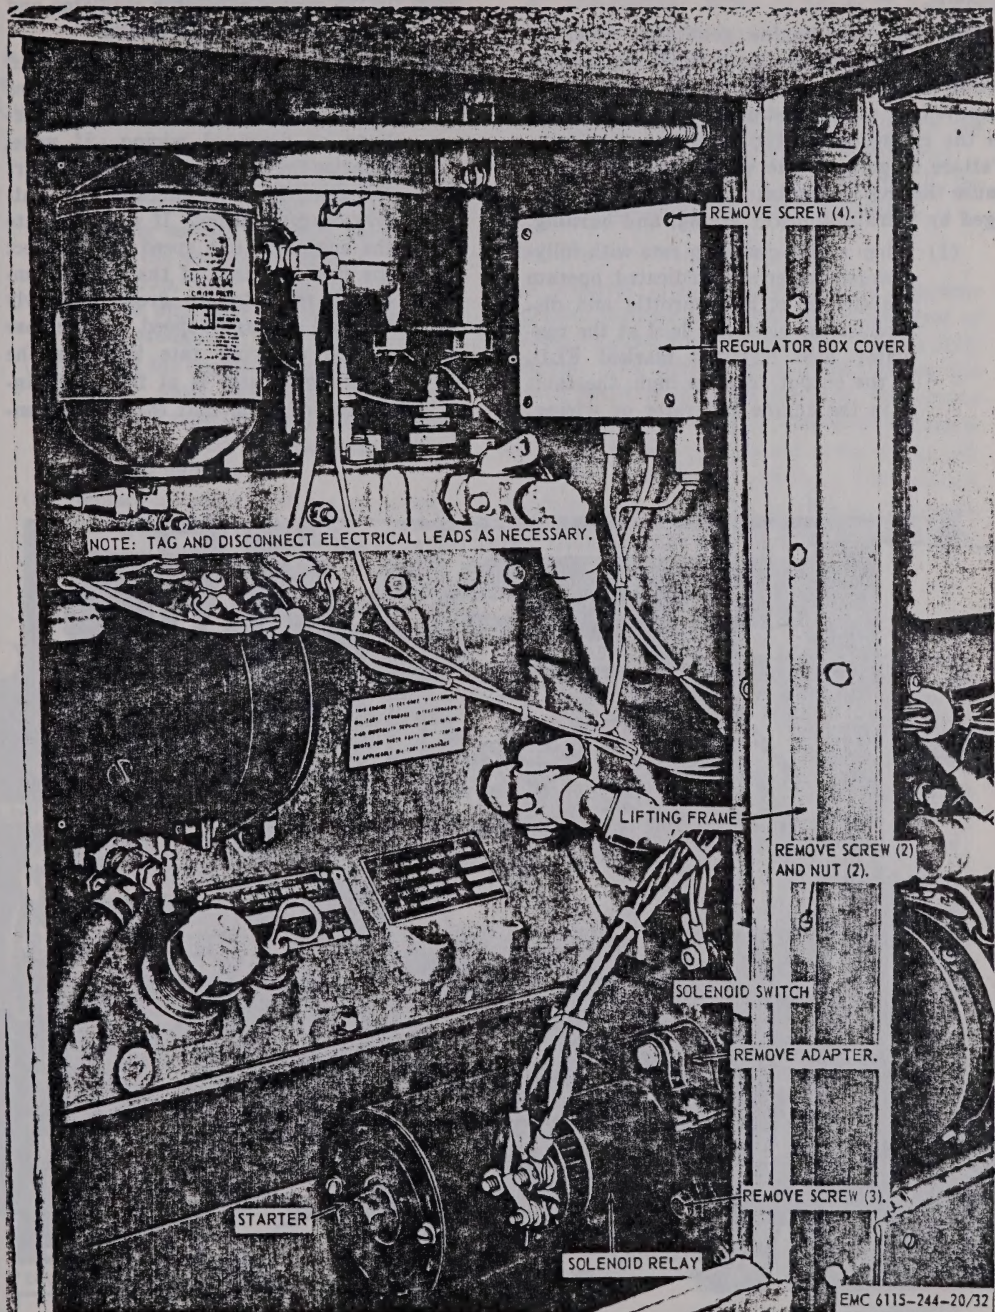

Figure 32. Starter, solenoid switch, and regulator box cover, removal and installation.
- (1) Refer to figure 32 and remove the starter from the engine.
- (2) Remove the solenoid relay (par. 102).
- (1) Install the solenoid relay (par. 102).
- (2) Refer to figure 32 and install the starter on the engine.
a. Removal. Refer to figure 32 and remove the solenoid switch from the lifting frame.
- (1) Clean the solenoid switch with a cloth dampened with an approved cleaning solvent and dry thoroughly. Clean the mounting hardware with an approved cleaning solvent and dry thoroughly.
- (2) Inspect the solenoid switch for dents, cracks, loose terminals, and other damage. Inspect the mounting hardware for bends, cracks, defective threads, and other damage.
- (3) Replace a damaged or defective solenoid switch on the lifting frame.
c. Installation. Refer to figure 32 and install the solenoid switch on the lifting frame.
- (1) Refer to figure 32 and remove the regulator box cover from the regulator box.
- (2) Refer to figure 32 and install the regulator box cover on the regulator box.